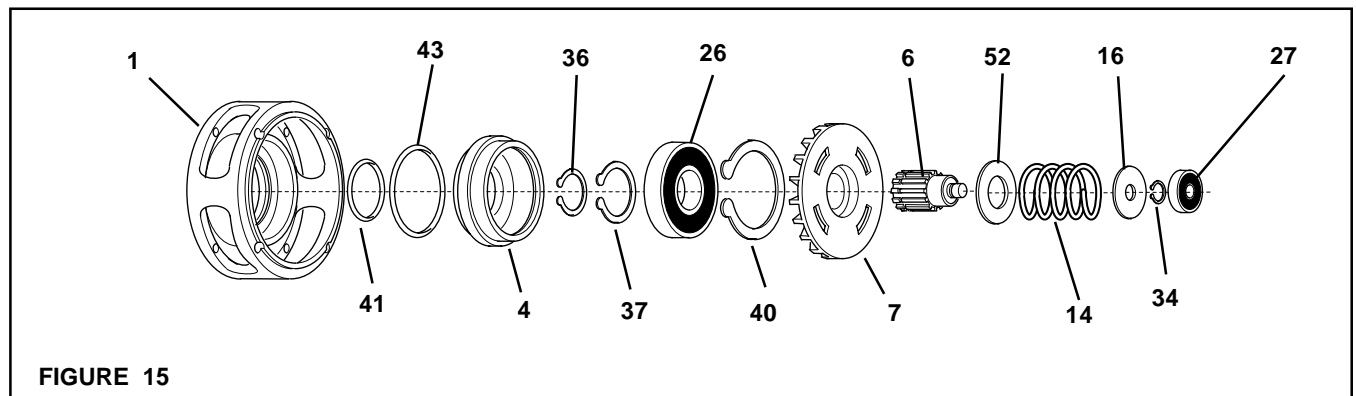

FIGURE 15
1. Remove the old Ball Bearing (Item 27) (See Figure 15).
2. Remove the Retaining Ring (Item 36) from the Hub (Item 6) (See Figure 15).
3. Slide the Hub (Item 6), Compression Spring (Item 14), Spring Back-Up Washer (Item 52), Spring Retainer Washer (Item 16), and Retaining Ring (Item 34) out of the Friction Disc (Item 7) (See Figure 15).
4. Press the Piston (Item 4), Friction Disc (Item 7), and Ball Bearing (Item 26) out of the Housing (Item 1) (See Figure 15).
5. Remove the old O-ring Seals (Items 41 and 43) from the Piston (Item 4) and Housing (Item 1) (See Figure 15).
6. Remove the Retaining Ring (Item 37) from the Friction Disc (Item 7); then, using a bearing puller, remove the Piston (Item 4) and old Ball Bearing (Item 26) from the Friction Disc (Item 7) (See Figure 15).
7. Remove the Retaining Ring (Item 40) from the Piston (Item 4) and press the old Ball Bearing (Item 26) out of the Piston (See Figure 15).
8. Clean the bearing bore of the Piston (Item 4) with fresh solvent, making sure all old Loctite® residue is removed (See Figure 15).
9. Apply an adequate amount of Loctite® 680 to evenly coat the outer race of the new Ball Bearing (Item 26) and press the new Ball Bearing into the Piston (Item 4) (See Figure 15).
10. Reinstall the Retaining Ring (Item 40) (See Figure 15).
11. Support the inner race of the new Ball Bearing (Item 26); then, press the Friction Disc (Item 7) into the Piston (Item 4) and new Ball Bearing (Item 26) (See Figure 15).
12. Reinstall the Retaining Ring (Item 37) (See Figure 15).
13. Lubricate the new O-ring Seals (Items 41 and 43) and the o-ring contact surfaces of the Piston (Item 4) and Housing (Item 1) with a thin film of fresh o-ring lubricant (See Figure 15).
14. Install the new O-ring Seals (Items 41 and 43); then slide the Piston (Item 4) and Friction Disc (Item 7) into the Housing (Item 1) (See Figure 15).
15. Remove the Retaining Ring (Item 34), Spring Retainer Washer (Item 16) and the Compression Spring (Item 14) from the Hub (Item 6) (See Figure 15).
16. Inspect the Compression Spring (Item 14) for signs of fatigue and replace it if necessary (See Figure 15).
17. Slide the Compression Spring (Item 14), and Spring Retainer Washer (Item 16) onto the Hub (Item 6); then, reinstall the Retaining Ring (Item 34) (See Figure 15).
18. Apply a thin film of Never-Seez® to the splines of the Hub (Item 6); then, slide the Hub and Compression Spring (Item 14) into the Friction Disc (Item 7) (See Figure 15).
19. Reinstall the Retaining Ring (Item 36) (See Figure 15).
20. Slide a new Ball Bearing (Item 27) onto the Hub (Item 6) (See Figure 15).